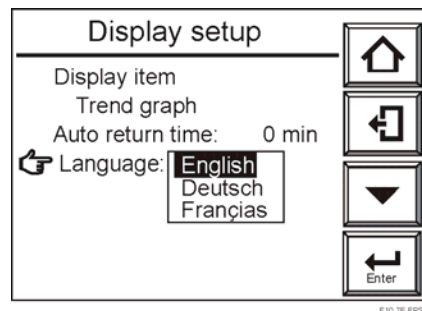

Figure 10-7 Display Setup Display Screen
3. Select Language from the Display setup display screen. The language selection display screen as shown in Figure 10-7 appears.